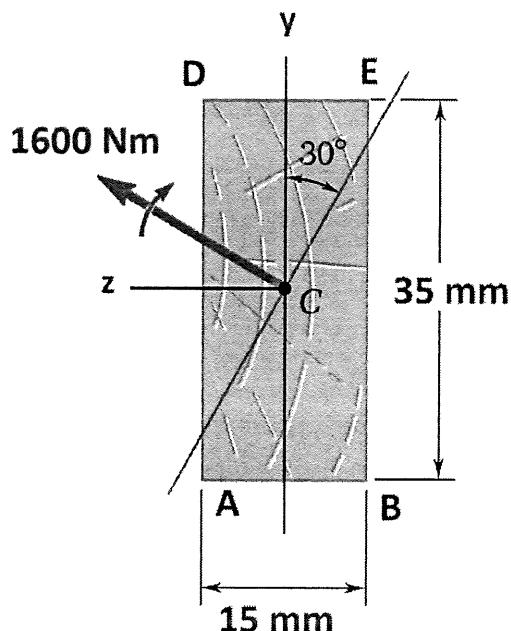

Figure 7
a) The couple 1600 Nm is applied to a beam of the cross section in a plane forming an angle 30° with the vertical shown in Figure 7.